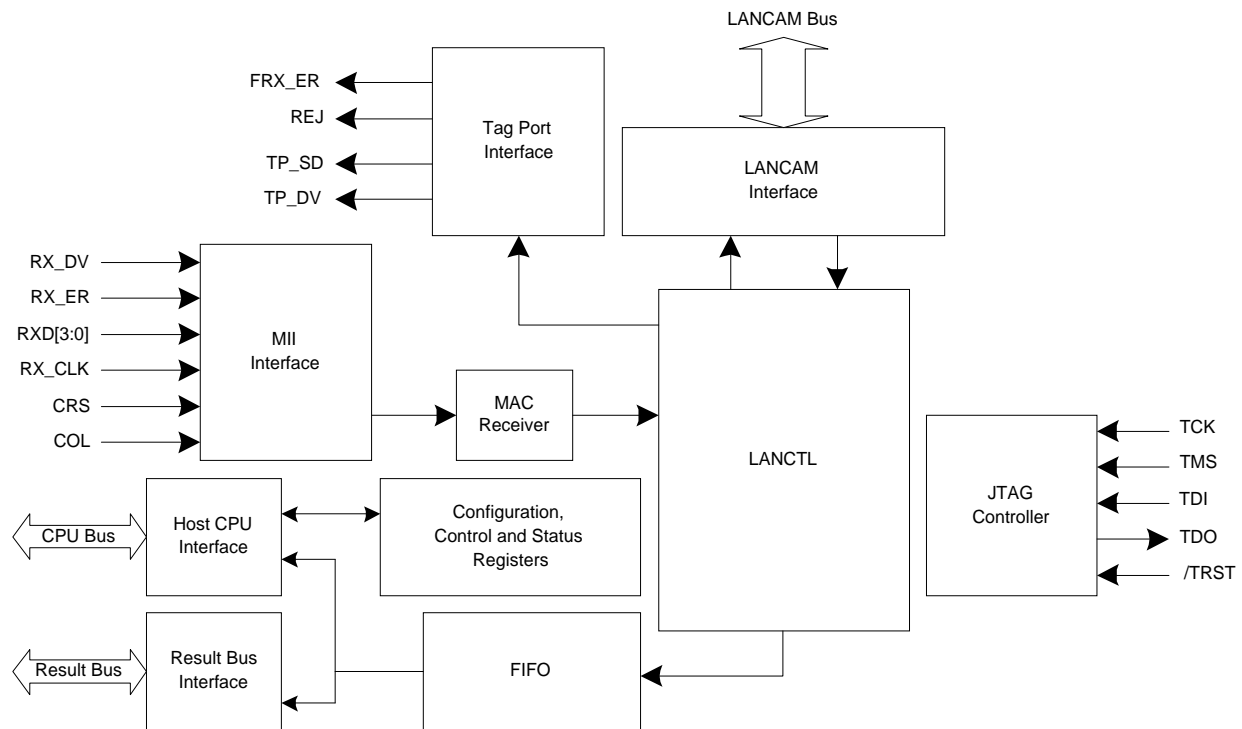

Figure 3: Functional Block Diagram
MU9C8338A internal functions are shown in Figure 3. Before discussing the individual blocks, the underlying principles are presented. The network interface is monitored for network and data symbol errors. Receive data [RXD] is clocked into a register using the 25MHz recovered clock for 100Base-X or 2.5MHz clock for 10Base-X. The Preamble and Start Frame delimiter (SFD) are scanned to locate the Destination address (DA) and the Source address (SA).
The building blocks that make up the MU9C8338A are shown in Figure 3, and their functions are described by the following.